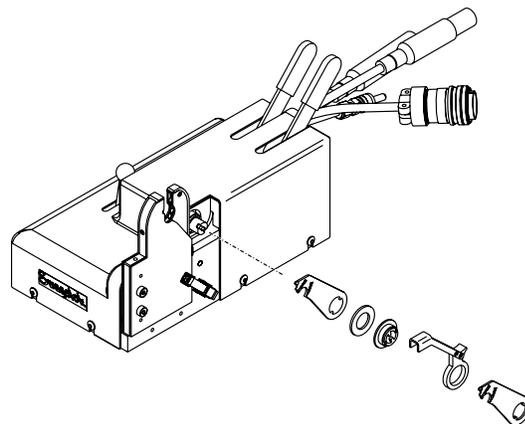

Figure 37 Installing the Movable Clamp Assembly
8. Reinstall the thrust bearing and adapter hub on the shaft. Align them with the notched shaft. See Figure 37.